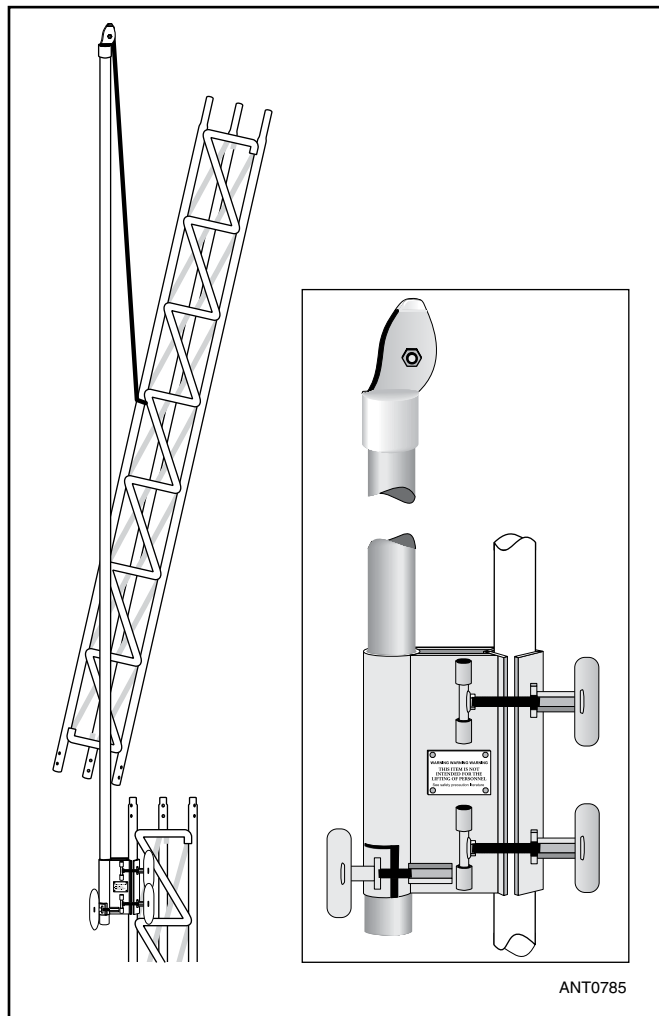

Figure 26.27 — Rohn "Erection Fixture" EF2545 also known commonly as a "gin pole."
The purpose of a gin pole (see **Figure 26.27**) is to provide a support point high above the top of the tower for lifting and positioning an object. This allows the necessary work to be done on the object without whoever is doing the work having to support its weight at the same time. The Rohn gin pole (Rohn Erection Fixture EF2545) is rated for sections of Rohn 25G and 45G and comes with clamps to secure it to a leg of the assembled sections. Towers made of angled legs require a special gin pole — contact the manufacturer.
3) The T-bar handle for the tube clamp is loosened, and the aluminum tube is extended to its maximum height, as shown in Figure 26.27. Make sure the free end of the haul rope cannot slip through the top pulley, or else you'll have to lower the gin pole and go through this step again.